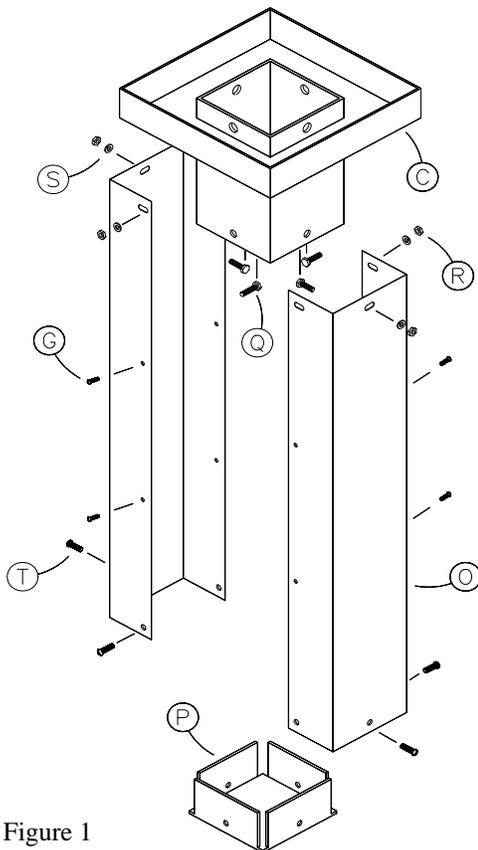

Figure 1
1. Assemble the *Socket Sides* (O) to the outside of the *Ground Socket Top* (C) using *3/8" X 1" Hex Bolts* (Q), *3/8" Lock Washers* (R) and *3/8" Hex Nuts* (S) and to the outside of the *Socket Bottom* (P) using *5/16" X 1" Screw* (T). The *Socket Sides* (O) should overlap. Use the *1/4" X 1/2" Self Tapping Screws* (G) to connect the *Socket Sides* (O). Tape the side seams to prevent concrete from seeping into the socket. Leave the bottom edges open to allow drainage. See Figures 1 and 2.